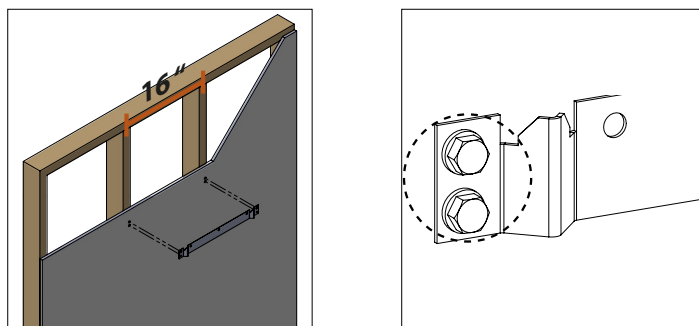

Figure 5 - Mounting the Bracket on 16" Center Studs
1. Position the upper wall mounting bracket on the wall. Ensure the bracket is level and the drilling holes are on stud. Then use the bracket as a template to mark four (4) drilling holes on the wall - two (2) on each side of the bracket. See Figure 5 for details.